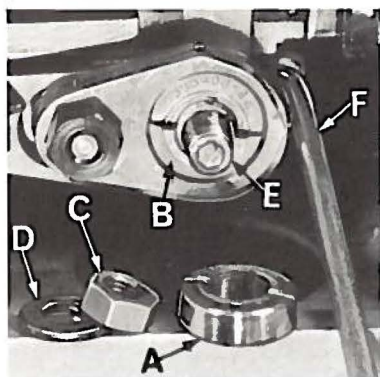

Fig. 11
Length of stitch is determined by the combination of feed eccentrics used. Outer (left) eccentric (A, Fig. 11) actuates main (rear) feed dog; while the inner (right) eccentric (B) actuates the differential (front) feed dog.